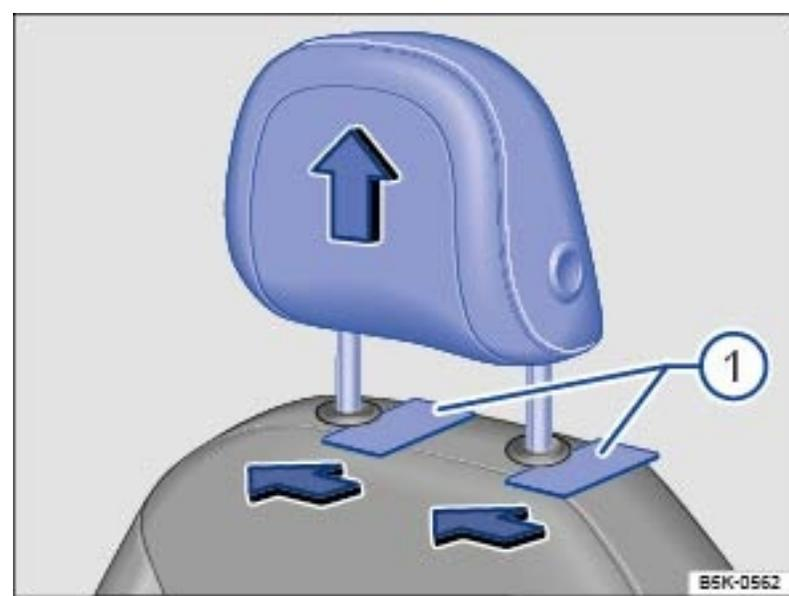

Fig. 44 Removing the front head restraints.
- ▶ Slide a flat object, such as a plastic credit card, underneath the right side of the cap (left side if sitting behind the head restraint) on the right-hand seat guide rod → Fig. 44  to unlock the head
- ▶ Push the head restraint down → Fig. 44 .